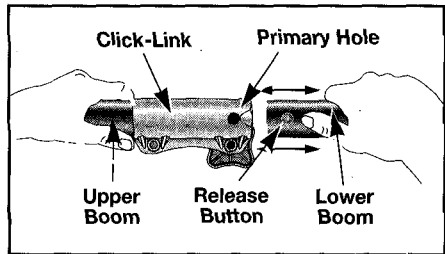

Fig. 14
3. While firmly holding the upper boom, pull the lower boom straight out of the Click-Link (Fig. 14).
1. Remove the hanger from the lower (attachment) boom. Hold the release button down while pushing the lower (attachment) boom into the Click-Link (Fig. 14).
2. **BASIC TRIMMING OR USING OTHER RYOBI ATTACHMENTS** - Locate and lock the release button into the **Primary Hole** in the Click-Link (Fig. 14).